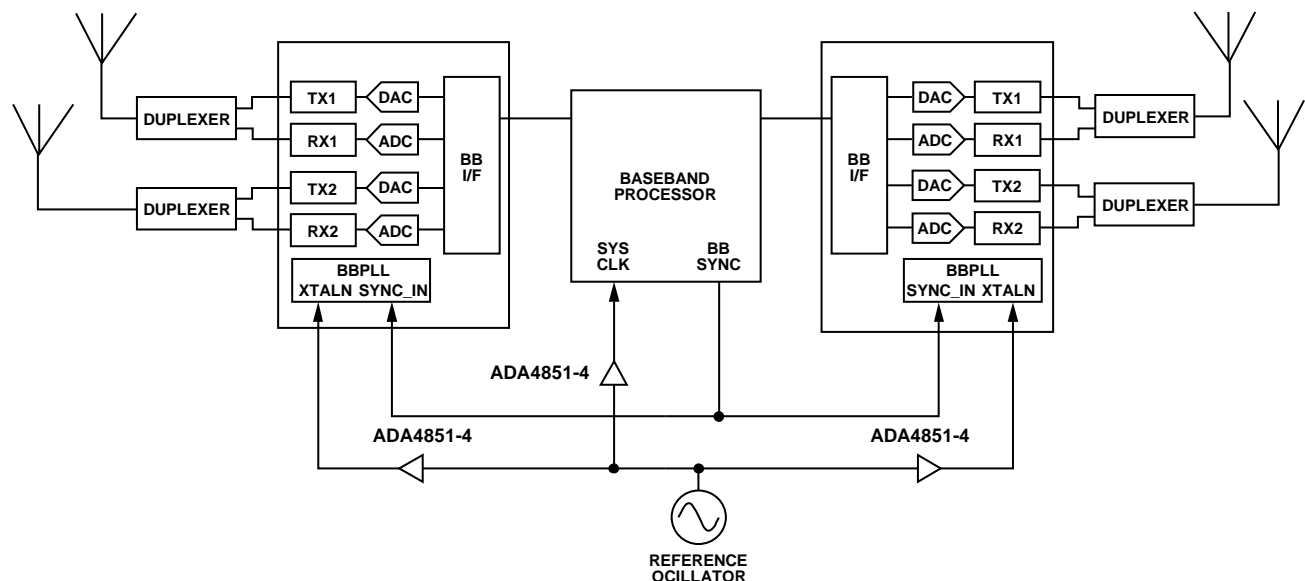

Figure 59. BB Multichip Synchronization Configuration
MIMO systems requiring more than two input or two output channels, multiple AD9361 devices and a common reference oscillator are required. The AD9361 provides the capability to accept an external reference clock and synchronize operation with other devices using simple control logic. Each AD9361 includes its own baseband PLL that generates sampling and data clocks from the reference clock input, so an additional control mechanism is required to synchronize multiple devices. A logical SYNC_IN pulse input is needed to align each device's data clock with a common reference. Figure 59 illustrates the connections necessary to synchronize two AD9361 devices. The oscillator output is buffered into each device using an ADA4851-4 quad high-speed op amp as a clock buffer amplifier. Another alternative is to use a clock buffer IC like the AD9548 to distribute a buffered clock to each device while minimizing the noise coupling between devices. The procedure following Figure 59 explains how to synchronize two devices, but it should be noted that additional devices could be connected in parallel using this procedure. The total number of devices that can be connected in parallel is limited only by the drive capability of the clock and logic signals.
1. Connect all AD9361 clock inputs to a common buffered reference using the XTALN pin as shown in Figure 59 for proper synchronization. (Figure 59 uses the ADA4851-4 configured as a clock buffer amplifier.) In addition, the electrical length of the trace feeding the reference to each device must be equivalent to avoid clock skew that could cause the sync function to fail.